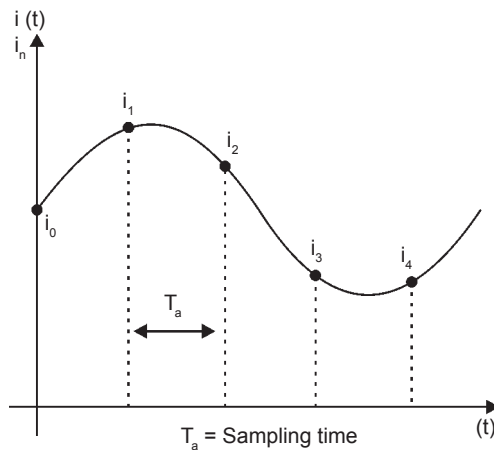

Figure 6.45 - Example of Trace function signal sampling
- ☑ Sampling time is the time interval between the points stored by the Trace function (refer to the figure 6.45). If, for instance, a 1 ms (1 millisecond or 1/1000 second), it means that 1000 points will be stored per second (if there is enough memory available).